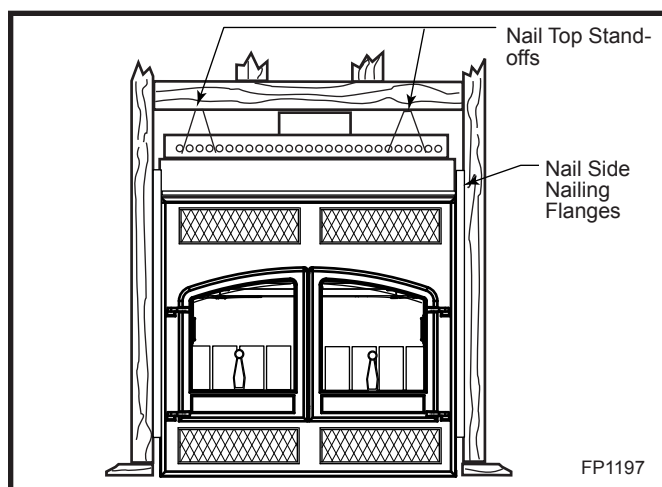

Fig. 12 Fasten fireplace in position.
Two (2) nailing flanges are supplied with the fireplace. To level the box and secure it firmly in place, remove the nailing flanges from the hearth and install at the sides of the fireplace as shown in Figure 12.